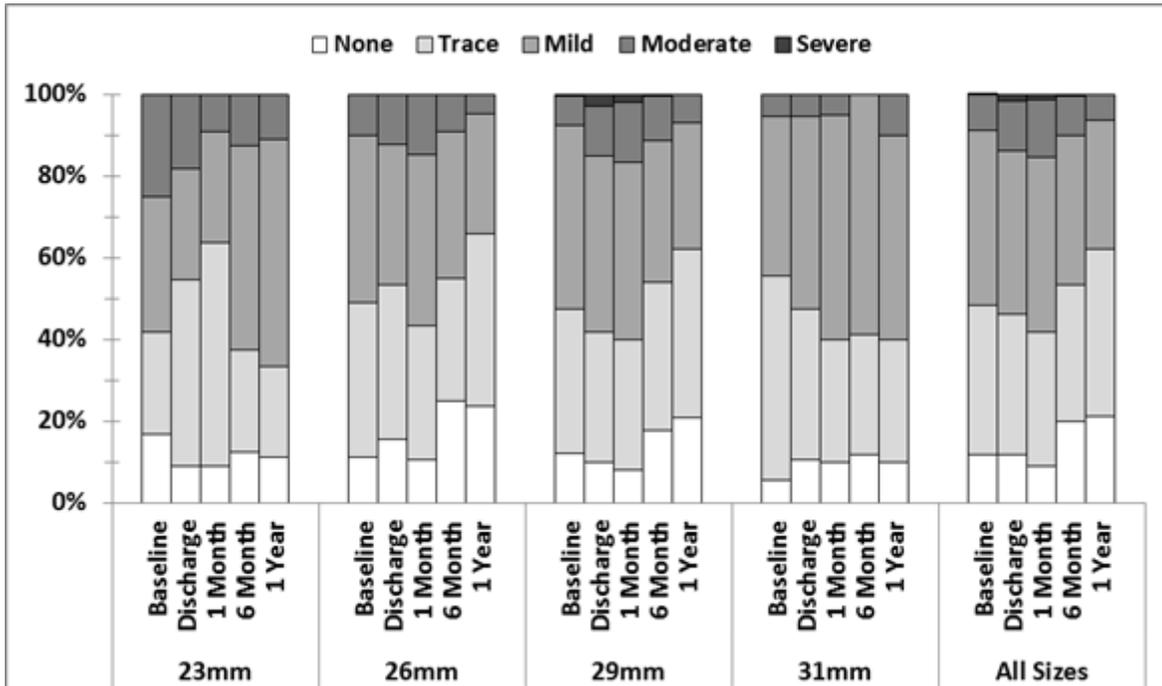

Figure 39: Total Aortic Regurgitation by Visit – Iliofermoral Implanted
Figure 39 shows total aortic regurgitation (AR) severity over time in the Implanted iliofemoral population. These data are presented per valve size as well as for all sizes combined. Considering all valve sizes, the majority of patients presented at 1, 6, and 12 months with AR severity classified as trivial or mild. Over time, the percentage of patients with moderate or severe AR decreased to 0% at 12 months. The number of patients with no AR increased over time to 21.3% at 12 months.